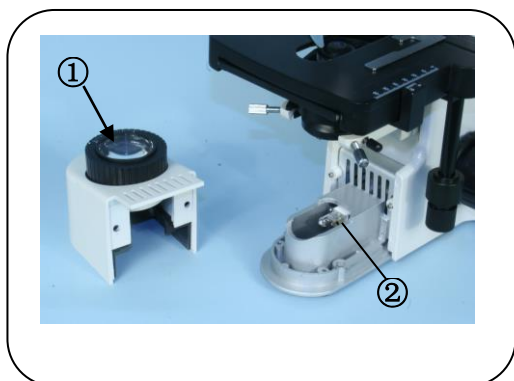

Fig. 16.
2. Changing the bulb (Fig. 16.)